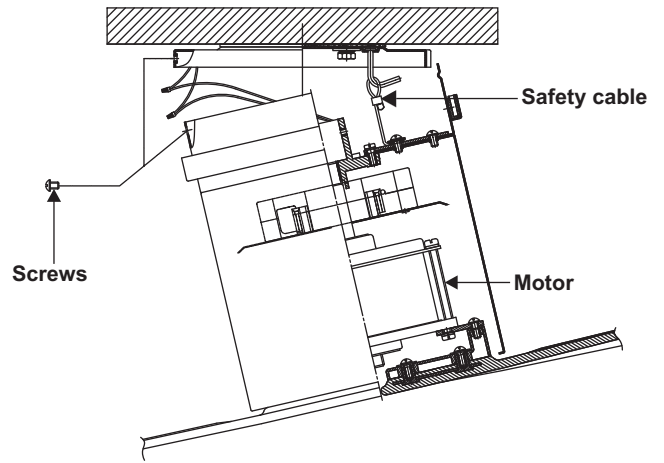

Figure 13
Step 1. Move fan motor into position over the four mounting holes and secure with the four screws provided. The safety support is provided to prevent the fan from falling. Secure the safety cable securely onto the hook. (Fig. 13)